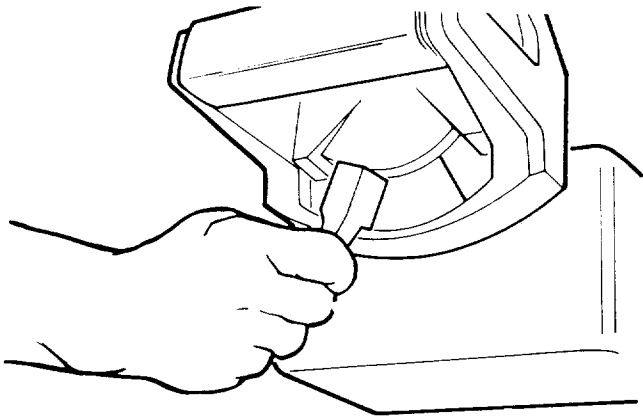

Fig. 143 - Bevel Lock - Locked
2. Position the motor at approximately 30° bevel angle and lock *bevel lock*. (Figure 143)